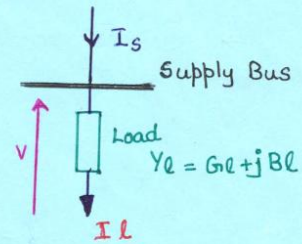

Fig 1
- ① Figure 1 shows 1 Ph load connected to the bus as in fig.